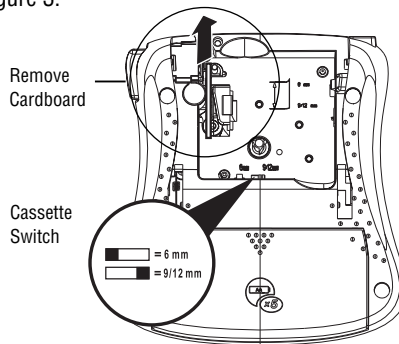

Figure 3
Remove the protective cardboard insert from between the print head and roller. See Figure 3.
- Set the cassette switch for the size of the tape cassette that you are inserting. See Figure 3. A notch in the cassette will fit over the switch when it is in the correct position.